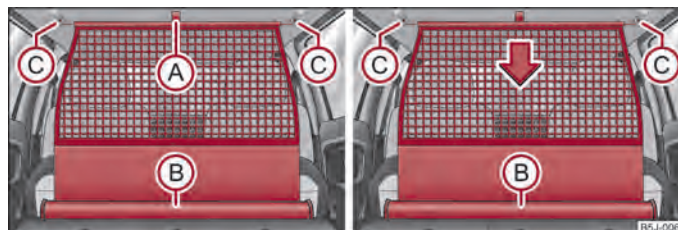

Fig. 54 Pull out the rear bulkhead/roll up
- Pull the luggage net partition at the bracket (A) out of the housing (B) ⇒ fig. 54.
- First of all insert the cross rod into the mount (C) on one side.
- Pull the cross rod back slightly, first on the one side then on the other side and take the cross rod out of the mount (C) ⇒ fig. 54.
- **Hold** the cross rod in such a way that the luggage net partition can roll up slowly and without damage into the housing (B).